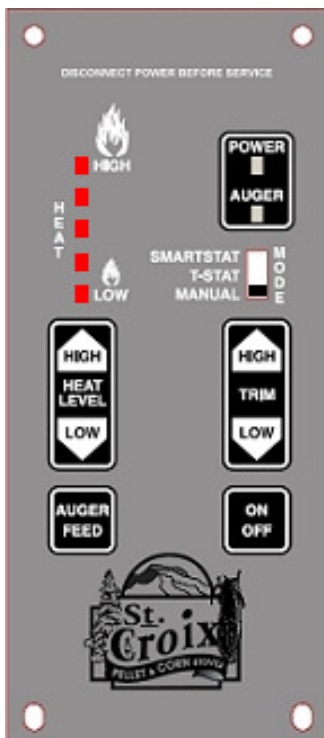

Figure 20
- 1 - **Program 1.** The Cycle Time is 8.5 seconds. This program will be the default program when the furnace is first plugged in. **This program is for use with Pellets, Corn, Wheat, Rye, Cherry Pits & Distillers Grain Pellets.** (See figure 20 on page 36)
- 2 - **Program 2.** The Cycle Time is 7.5 seconds. **This program is for use with Pellets, Corn & Cherry Pits.** (See figure 20 on page 36)
- 3 - **Program 3.** The Cycle Time is 6.5 seconds. **This program is for use with Pellets & Cherry Pits.** (See figure 20 on page 36)
- 4 - **Program 4.** The Cycle Time is 5.5 seconds. **This program is for use with Pellets & Cherry Pits.** (See figure 20 on page 36)
To change the program the furnace must be in the OFF position, the furnace must be cooled down so the Proof of Fire disc is open and the Thermostat slide switch must be in the Manual mode. (See figure 20)